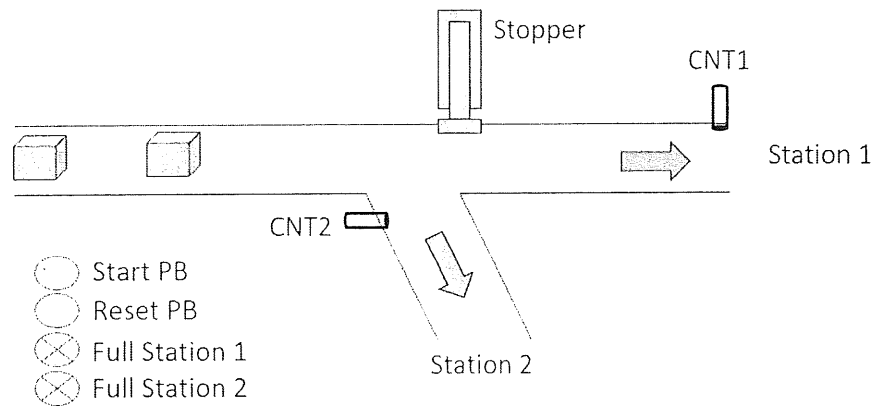

Figure 4
c) Figure 4 shows a conveyor sorting line of a box packaging. By pressing the Start pushbutton, the conveyor motor will turn on. The operator will then place boxes on the conveyor and the boxes first need to go to Station 1. A total of 20 boxes must go to Station 1 and this is monitor using sensor CNT1. After that, an indicator lamp needs to turn on to show station 1 is full and at the same time a stopper will extend to block the path and divert the boxes to go to Station 2. A total of 10 boxes then need to go to Station 2 and it is monitor using sensor CNT2. When done, another indicator lamp needs to turn on to show station 2 is full and conveyor motor also stops. The operator must press Reset pushbutton to reset the counters and turn off all the outputs (stopper and indicator lamps) before the operation can be start again.